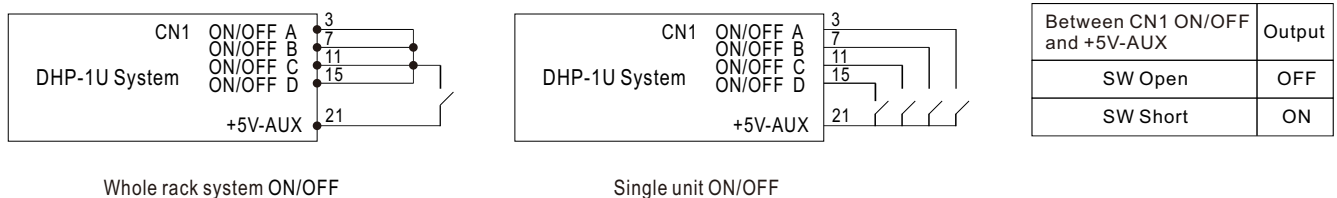

Figure 3-3 Connection of Remote Control
- ⊙ Built-in remote ON/OFF control circuit, refer to Figure 3-3 for control methods of single unit or whole rack system.